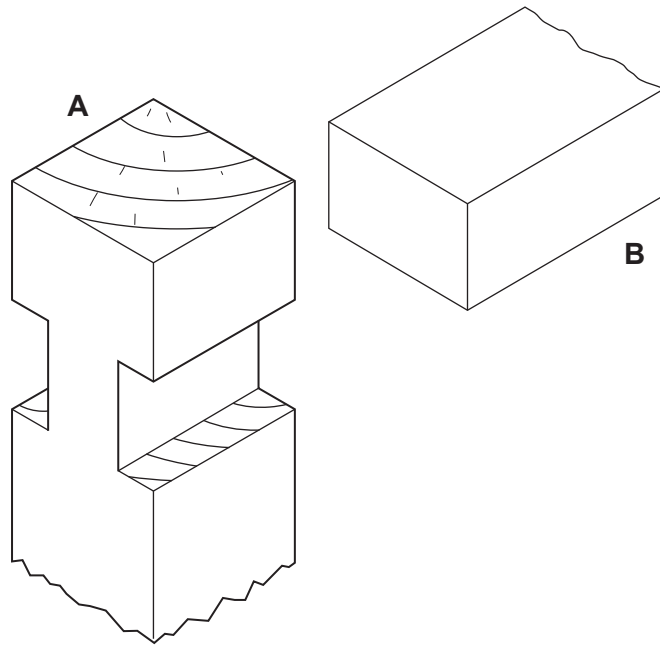

Fig. 2.1
- 2 Fig. 2.1 shows two parts, **A** and **B**, of an incomplete tee bridge joint.
Draw on part **B** in Fig. 2.1 to show the other part of the tee bridge joint.